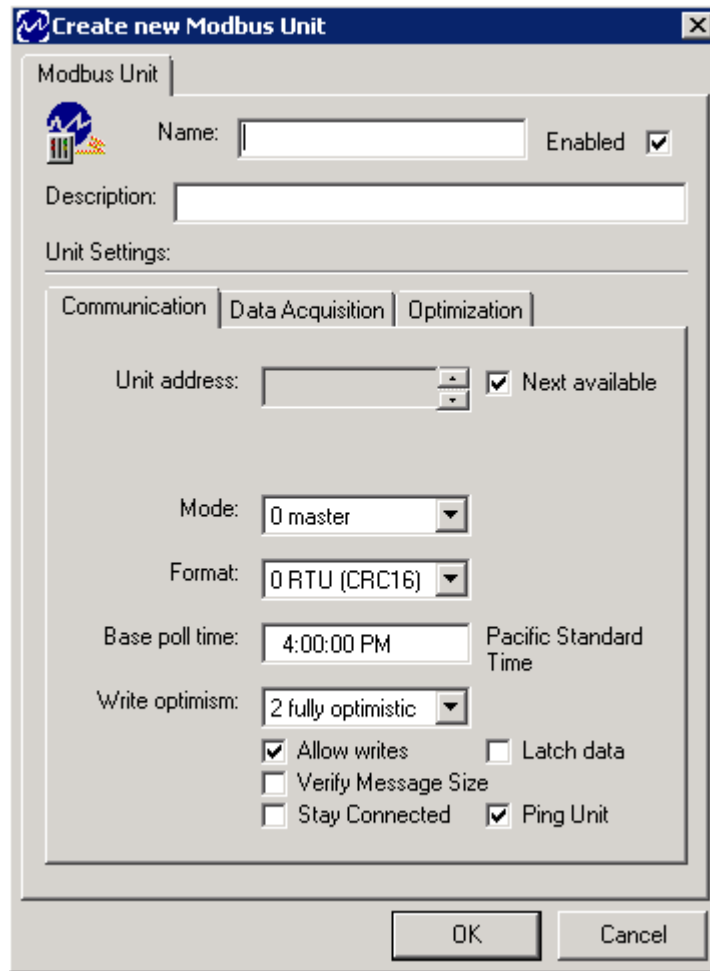

Figure 32 - Create New Modbus Unit Window - Communication Tab
The **Create New** window (Figure 32) displays the settings available when creating a **Modbus Unit** link.
Figure 32 displays the **Create New Modbus Unit – Communication** tab.
Some Modbus devices act as Master and the server needs to act as a slave to be able to communicate with them. This can be done by selecting **1 slave** from the drop-down list in the **Mode** field on the **Communication** tab (Figure 32). When this field is set to **Slave** mode, two extra fields appear (highlighted in Figure 33), both of which are described in Table 28: **Node Name**, **Use Name**.
5. The **Create New** window appears (Figure 32).